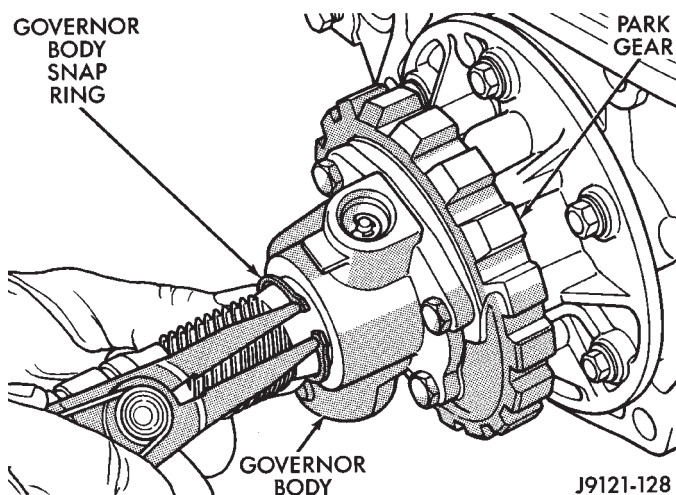

Fig. 140 Installing Governor Body Snap Ring
(8) Install snap ring that retains governor body on output shaft (Fig. 140).